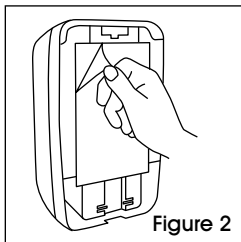

Figure 2
3. Peel paper off of installation tape and press dispenser firmly into position. (See Figure 2)